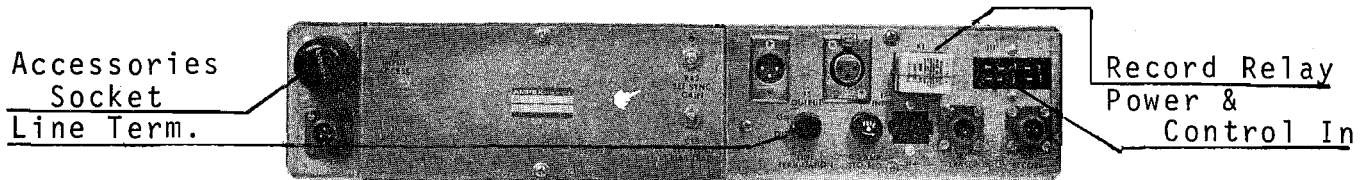

FIGURE 3-3
3.4 REAR CONTROLS AND CONNECTIONS, FIGURE 3-3